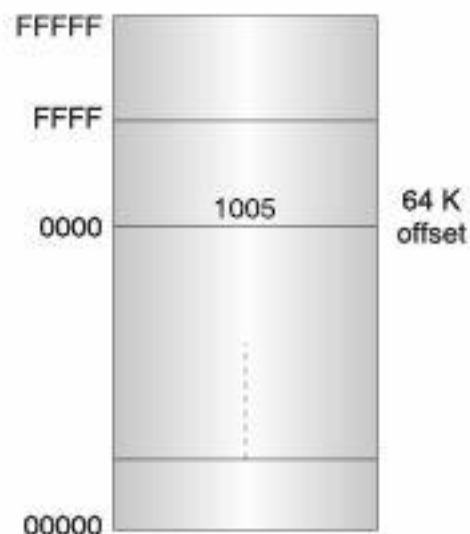

Fig. 4.2 Offset and Segment Address.
The complete architecture of 8086 microprocessor can be divided into two parts, the first part is Bus Interface Unit (BIU) and the second part is Execution Unit (EU). The bus interface unit contains the circuit for physical address calculations and a pre-decoding instruction byte queue (6 bytes long). The bus interface unit makes the system bus signals available for external interfacing of the devices. In other words, this unit is responsible for establishing communications with external devices and peripherals including memory via the bus. The complete physical address which is 20-bit long is generated using segment and offset registers, each 16-bit long. Thus, the segment addressed by the segment value 1005H can have offset values from 0000H to FFFFH within it, i.e., maximum 64 K locations may be accommodated in the segment. The segment register indicates the base address of a particular segment, while the offset indicates the distance of the required memory location in the segment from the base address. Since the offset is a 16-bit number, each segment can have a maximum of 64 K ($2^{16}=64k$) locations as shown in Figure 4.2. The bus interface unit has a separate adder to perform this procedure for obtaining a physical address. The segment address value is to be taken from an appropriate segment register depending upon whether code, data or stack are to be accessed, while the offset may be the content of IP, BX, SI, DI, SP or an immediate 16-bit value, depending upon the addressing mode.